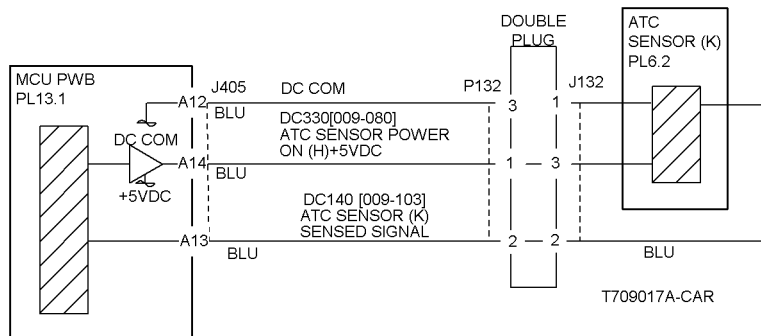

Figure 1 9-383 Rap Circuit Diagram - ATC Sensor K
Refer to Figure 1 and check connector P/J132. If the check is OK, replace the ATC Sensor (K) (PL 6.2). If the problem continues, replace the MCU PWB (PL 13.1).